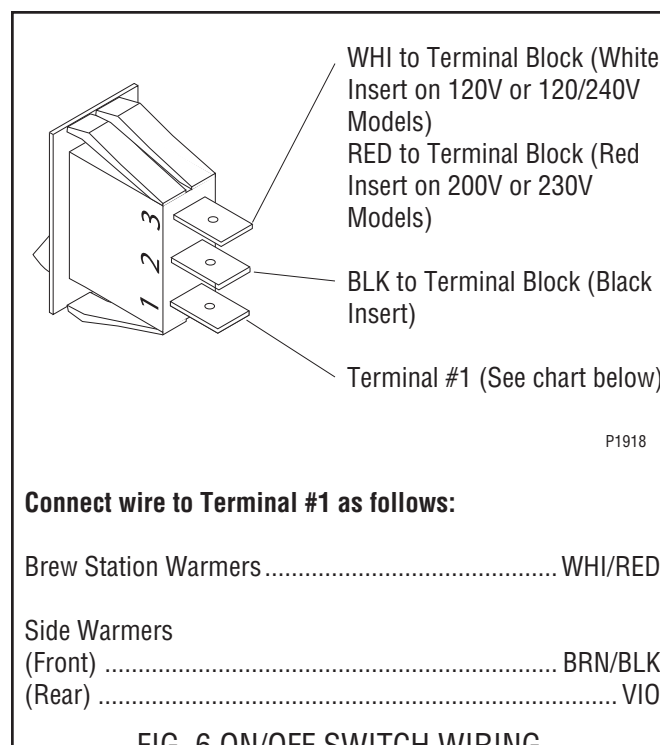

FIG. 6 ON/OFF SWITCH WIRING
6. Refer to FIG. 6 when reconnecting the wires.